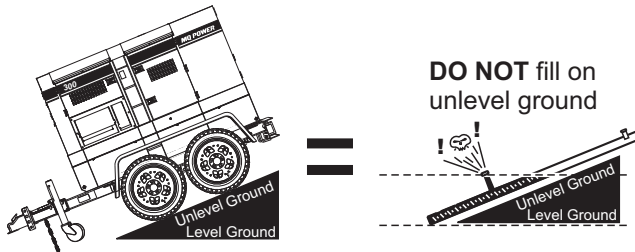

Figure 37. Only Fill on Level Ground
1. **Level Tanks** — Make sure fuel cells are level with the ground. Failure to do so will cause fuel to spill from the tank before reaching full capacity (Figure 37).